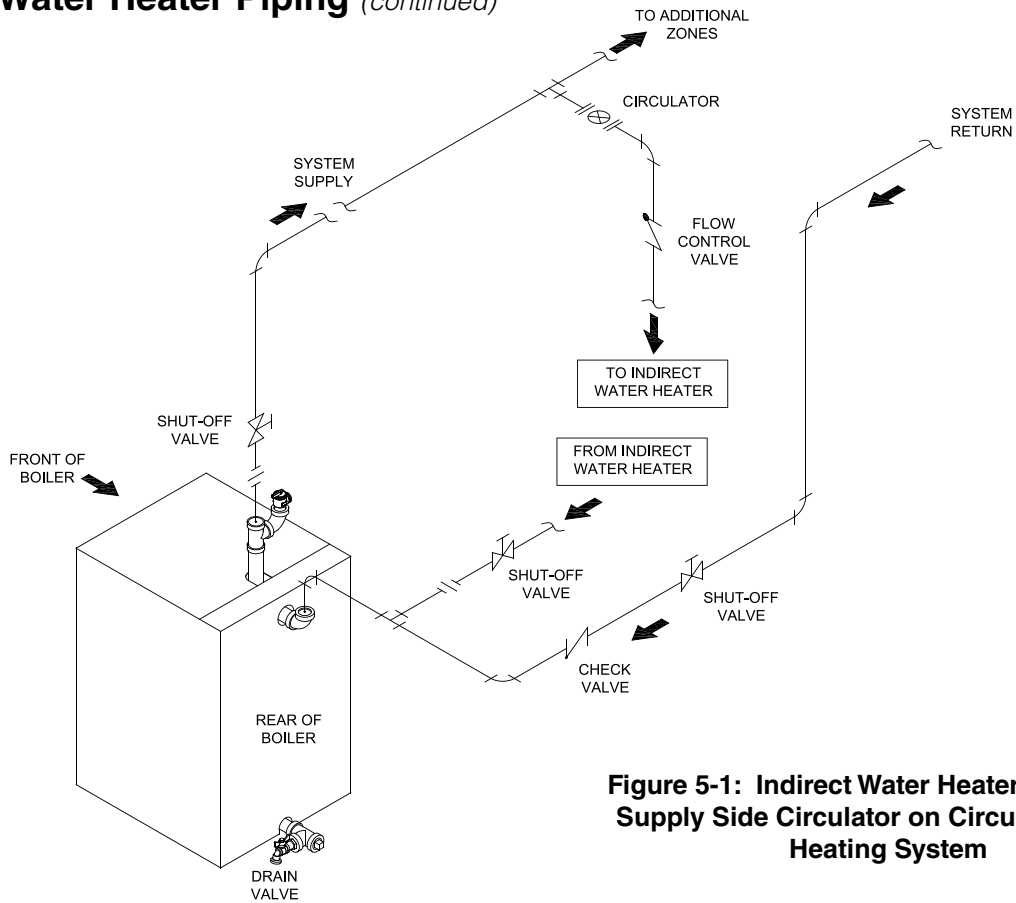

Figure 5-1: Indirect Water Heater Piping with Supply Side Circulator on Circulator Zoned Heating System
A. CONNECT INDIRECT DOMESTIC WATER HEATER PIPING as shown in Figure 5-1 and 5-2.